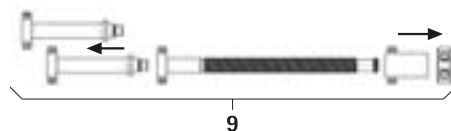

Fig. 4
- Dismount spindle distractor **9**, see Fig. 4.